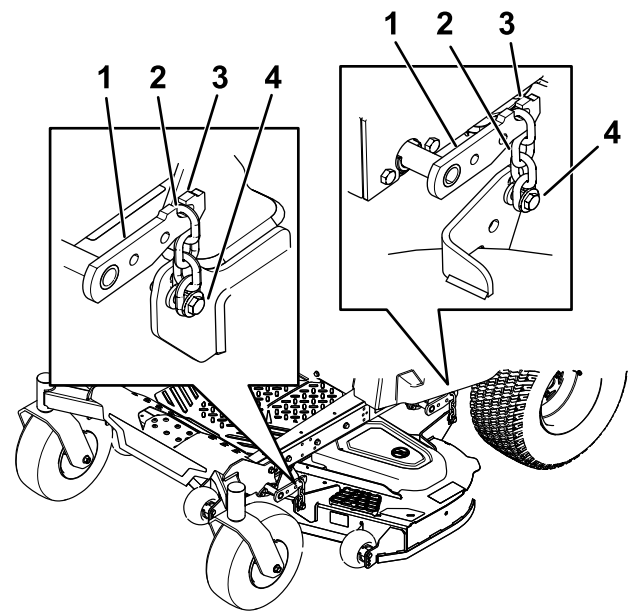

Figure 78
7. Remove the chains from the hooks on the deck-lift arms (Figure 78).
6. Lift the rear of the mower deck and attach the chains to the rear lift arms (Figure 78).
7. Attach the front chains to the front lift arms (Figure 78).